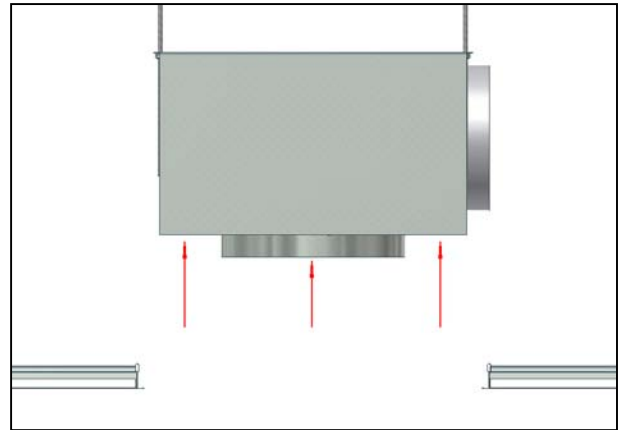

Figure 2: Raise Plenum Box
2. Once you are satisfied with its alignment within the ceiling grid, raise the Plenum Box above the grid to allow sufficient space to install the Tile (see figure 2).